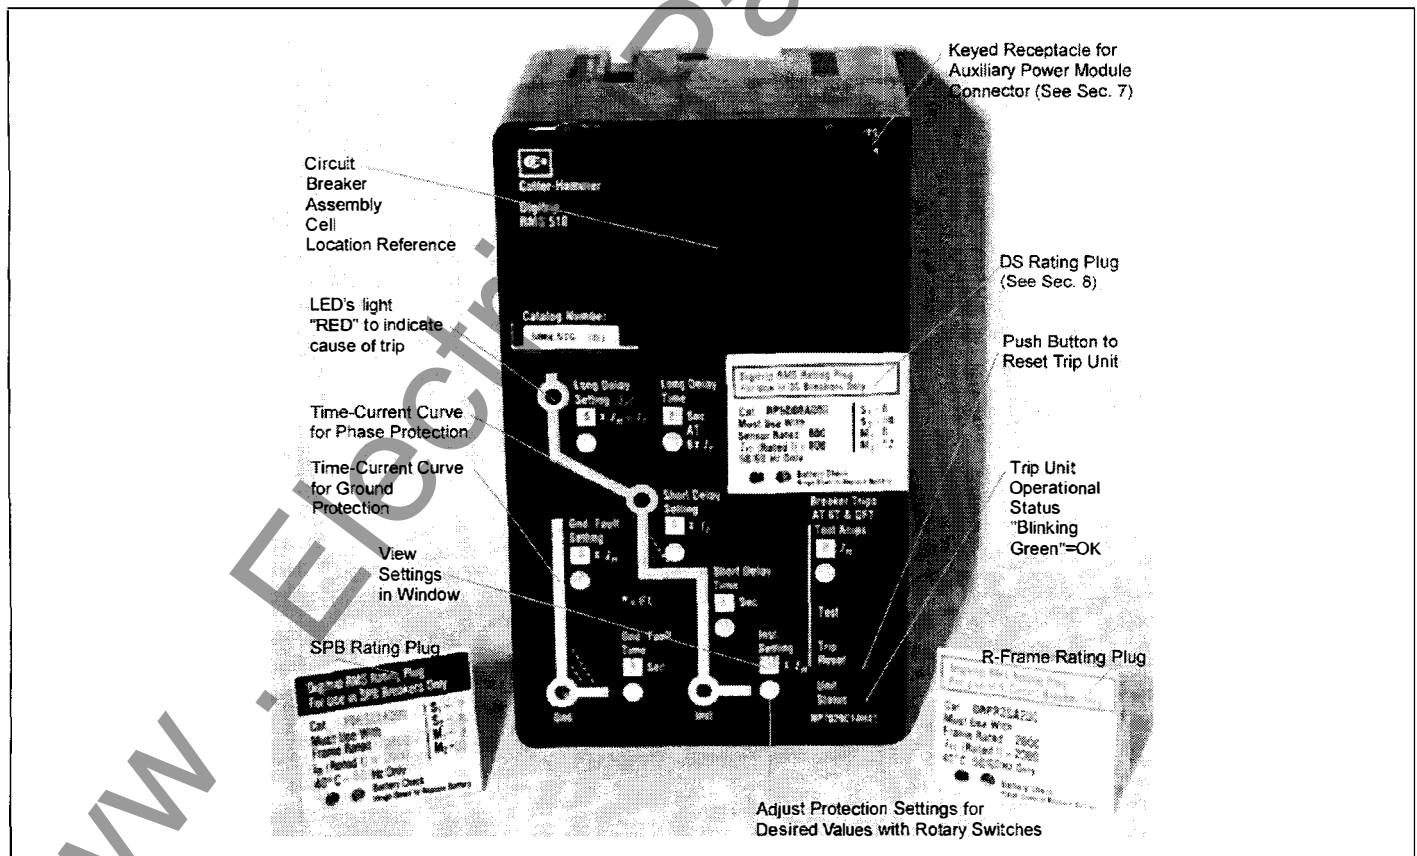
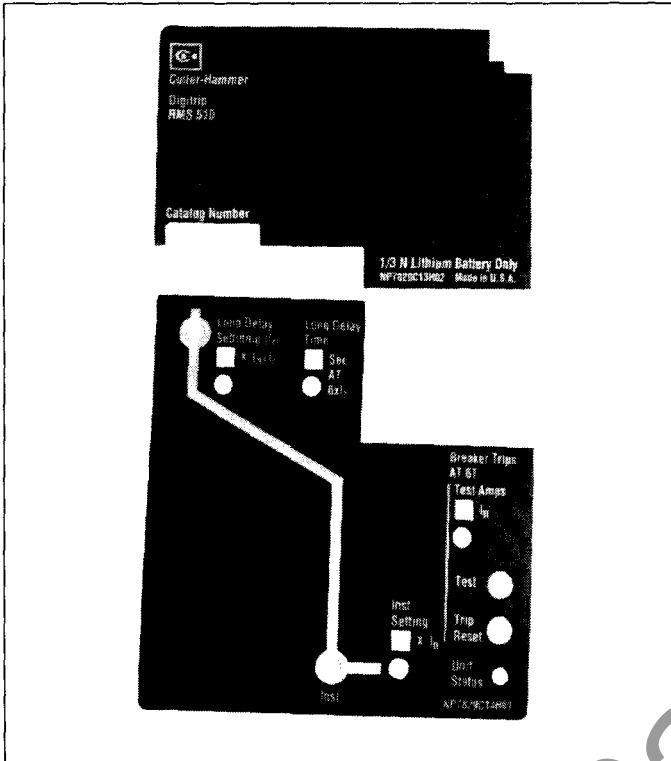
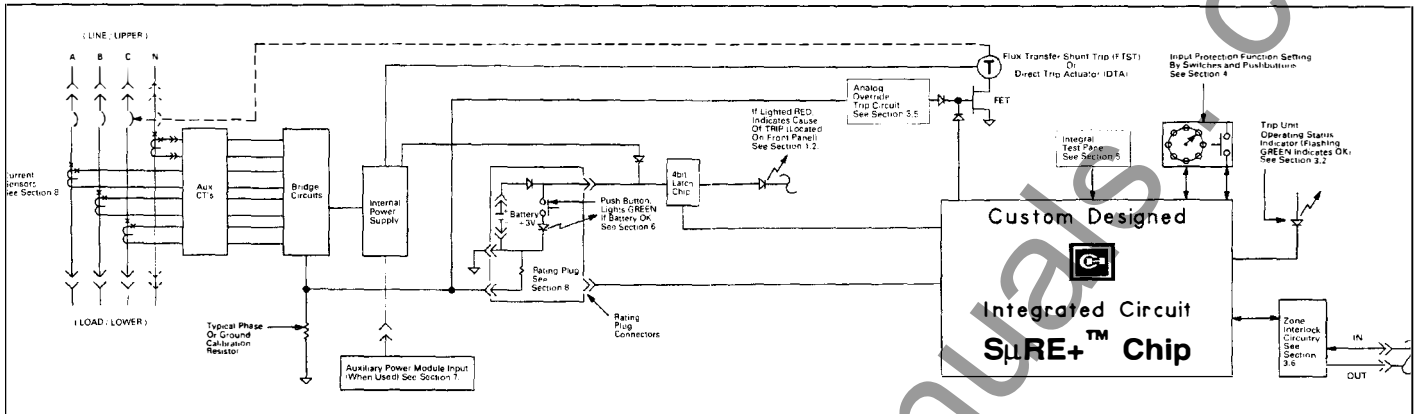
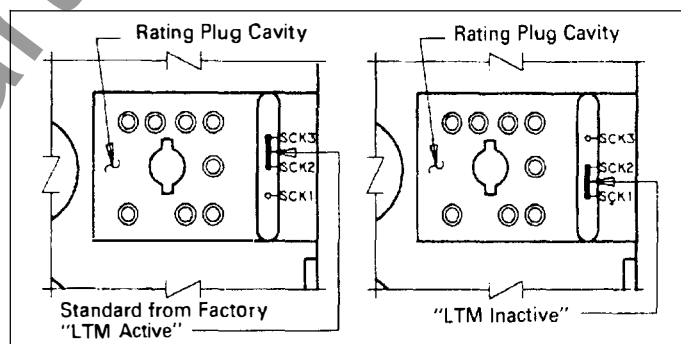

Fig. 1 Digitrip RMS 510 Trip Unit Model LSIG with Rating Plug
Fig. 2.1 Long Time/Instantaneous Protection (LI)
Fig. 3 Digitrip RMS 510 Block Diagram with Breaker Interface
Fig. 4.2.1 Long Time Memory "LTM" Jumper
The Digitrip RMS 510, illustrated in Fig. 1, is a custom application specific integrated circuit based trip unit suitable for use in types DS and DSL low voltage AC power circuit breakers and type SPB Systems Pow-R circuit breakers and Series C[®] R-Frame molded case circuit breakers.
The Digitrip RMS 510 Trip Unit is available in six different types. Each trip unit may be equipped with a maximum of five phase and two ground (time-current) adjustments to meet specific application requirements. The types of protection available for each model include the following, which are illustrated in Figures 2.1 through 2.6:
The Digitrip RMS 510 Trip unit provides three basic functions: Protection, Information and Testing. A typical trip unit and rating plug are illustrated in Fig. 1. Individual product instruction leaflets referenced in Section 9.0 illustrate typical Digitrip RMS Trip Units installed in specific breakers.
The trip unit employs the Cutler-Hammer Inc. custom designed integrated circuit SμRE + chip, which includes a microcomputer to perform its numeric and logic functions. The principle of operation is described by the block diagram shown in Fig. 3.
The LEDs, shown in Figs. 1 and 2.1-2.6, on the face of the trip unit, light "RED" to indicate the reason for any automatic trip operation. As indicated in Figs. 2.1-2.6, each LED is strategically located in the related segment of the time-current curve depicted on the face of the trip unit. The reason for trip is identified by the segment of the time-current curve where the LED is lighted "RED". Following an automatic trip operation, the back-up battery, continues to supply power to the LEDs as indicated in Figs. 3 and 6. To check the status of the battery, see Section 6.
Push the "Trip Reset" button shown in Fig. 1, to turn "Off" the LEDs following a trip operation.
A green colored LED, as shown in Fig. 1, indicates the operational status of the trip unit. Once the load current through the circuit breaker exceeds approximately 10% of the frame/current sensor rating, the green LED will flash "On" and "Off" once each second, to indicate the trip unit is energized and operating properly.
Zone Selective Interlocking (or Zone Interlocking) is available (see Fig. 3) for Digitrip RMS Trip Units having Short Delay and/or Ground Fault protection. Zone Selective Interlocking provides the fastest possible tripping for faults within the breaker’s zone of protection, and yet also provides positive coordination among all breakers in the system (mains, ties, feeders and downstream breakers) to limit the outage to the affected part of the system only. When Zone Interlocking is enabled, a fault within the breaker’s zone of protection will cause the RMS DIG-ITRIP trip unit to:
Prior to placing circuit breaker in operation, each trip unit protection setting must be set to the values specified by the engineer responsible for the installation. The number of settings that must be made is determined by the protector model supplied as illustrated in Figs. 2.1 through 2.6. Each setting is made with a rotary switch, using a small screwdriver. The selected setting for each adjustment appears in its respective rectangular viewing window as illustrated in Fig. 1.
In certain applications it may be desirable to disable the LTM function. The LTM function can be disabled by (first opening the breaker and then) removing the Rating Plug (See Figures 1 and 6), and lastly moving the LTM jumper (inside the rating plug cavity, See figure 4.2.1) to its "INACTIVE" connection. (You can enable the LTM function again any time you wish by moving the LTM jumper back to its original "ACTIVE" connection.)
- 2) There is a condition under which the Long Delay Trip LED can erroneously indicate a LDT has occurred, even though the breaker is still closed. This can happen when an overload current momentarily exceeds the Long Delay Current Setting, I_r , so that the Long Delay LED flashes "RED" to indicate the overload condition. Then if, at the very moment when the LED is "ON", the load current would then suddenly drop to a value less than 10% of the breaker frame (or current sensor) rating, the trip unit stops functioning while the "4bit Latch Chip" (See Fig. 3) is set and the LED remains Lighted. If the current would again increase to a value above the Long Delay Current Setting, I_r , and then return to normal, the
LDT will reset itself. You can of course, manually clear the LDT (or any other trip indication) at any time, by pushing the "PUSH TO RESET" button. (See Figure 1.)